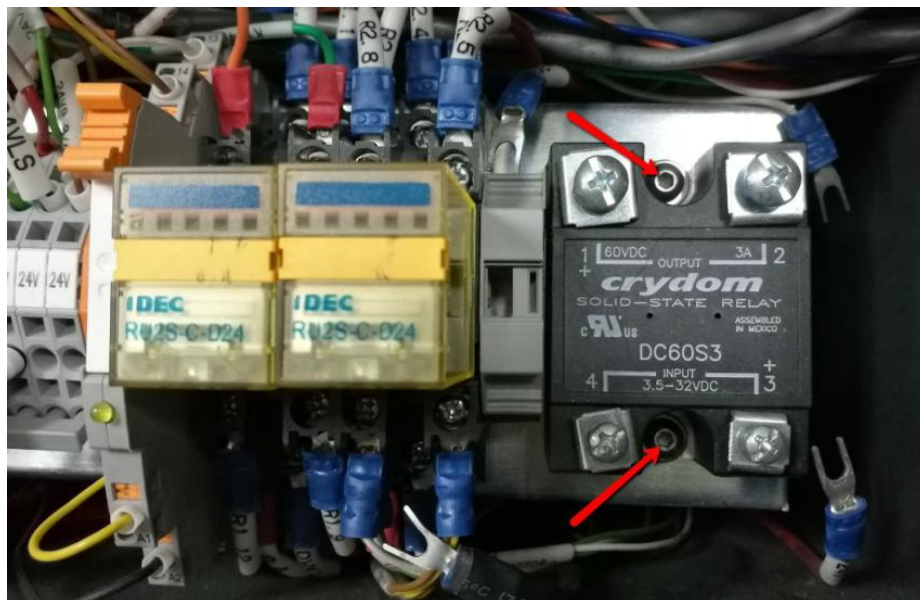

Figure 14 SSR Relay Assembly
- By refer to below SSR relay , assemble New Relay & tighten 2 x Screws as shown in Figure 14